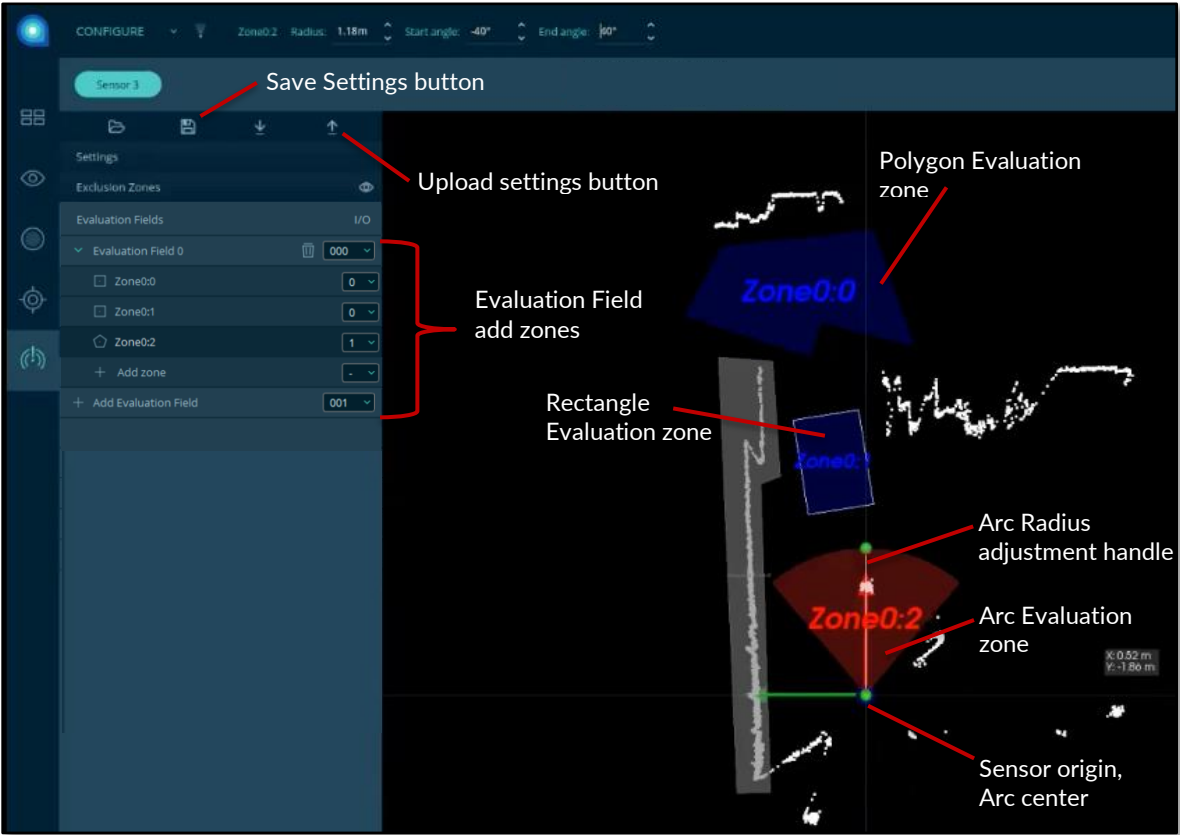

Figure 78. QORTEX Aware: Visualizer with Evaluation Field Zones
Evaluation Field zones have the same zone types as Exclusion Zones. See Figure 78. QORTEX Aware: Visualizer with Evaluation Field Zones.
Evaluation Field zone color indicates activity in zones. See Figure 78. QORTEX Aware: Visualizer with Evaluation Field Zones.
- Draw the zone in the point cloud panel. See Figure 78. QORTEX Aware: Visualizer with Evaluation Field Zones.